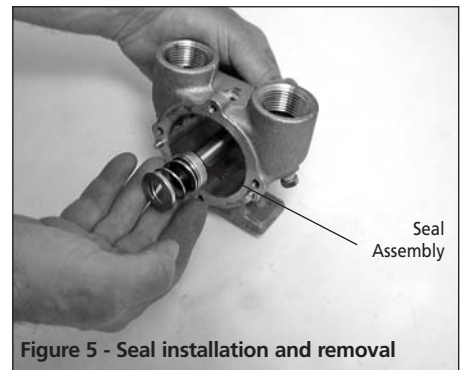

Figure 5 - Seal installation and removal
- g. Using a large snap ring pliers, remove the internal retaining ring (Ref. No. 1) from the drive end side of the pump body (Ref. No. 4). Using a small snap ring pliers, remove the retaining ring (Ref. No. 3) from the shaft (Ref. No. 12) at the seal end. The mechanical seal (Ref. No. 5B) will slide off the shaft (Ref. No. 12). While supporting the pump body (Ref. No. 4), pull against the shaft from the drive end until shaft and bearing assembly are removed (See Figure 5).
- d. Lubricate the drive and seal assembly (Ref. No. 5B) with water, and slide the new seal assembly over the impeller shaft (Ref. No. 12) with the carbon face first. Slide onto the shaft until the carbon seal face is compressed against the ceramic seal seat (Ref. No. 5A) (See Figure 5).